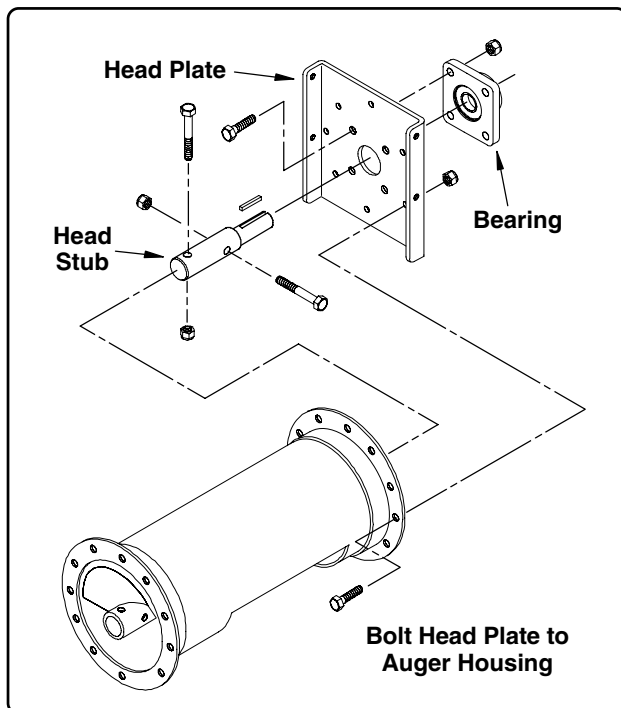

FIG. 13
1. Slide the head stub into the end of the flighting shaft and secure using two (2) 5/8" x 3 1/2" bolts, and nylon locknuts (See Fig. 13).
2. Attach the bearing to the head plate using four (4) 5/8" x 2" bolts and nylon locknuts.
3. Slide the head plate and bearing onto the head stub. Secure the head plate to auger housing flange using twelve (12) 3/8" x 1" bolts, lock washers and non-lock nuts.